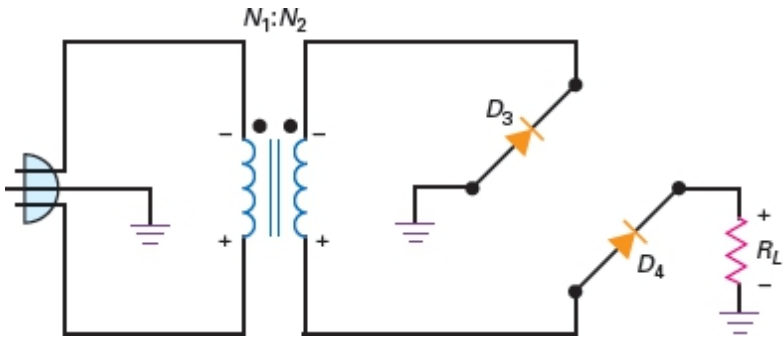

Figure-47 Equivalent circuit for negative half-cycle
- Figure-47 shows the equivalent circuit for the negative half-cycle. This time, D3 and D4 are forward biased. This also produces a positive load voltage.